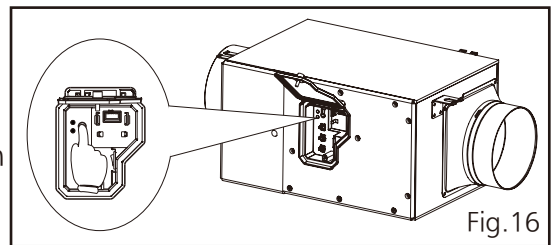

Fig. 16
5. Turn on main switch, press filter reset button with sound of "Pi-", then filter indicator and buzzer sound will be off. Close the control box cover by twist hand screw. (Fig. 16)